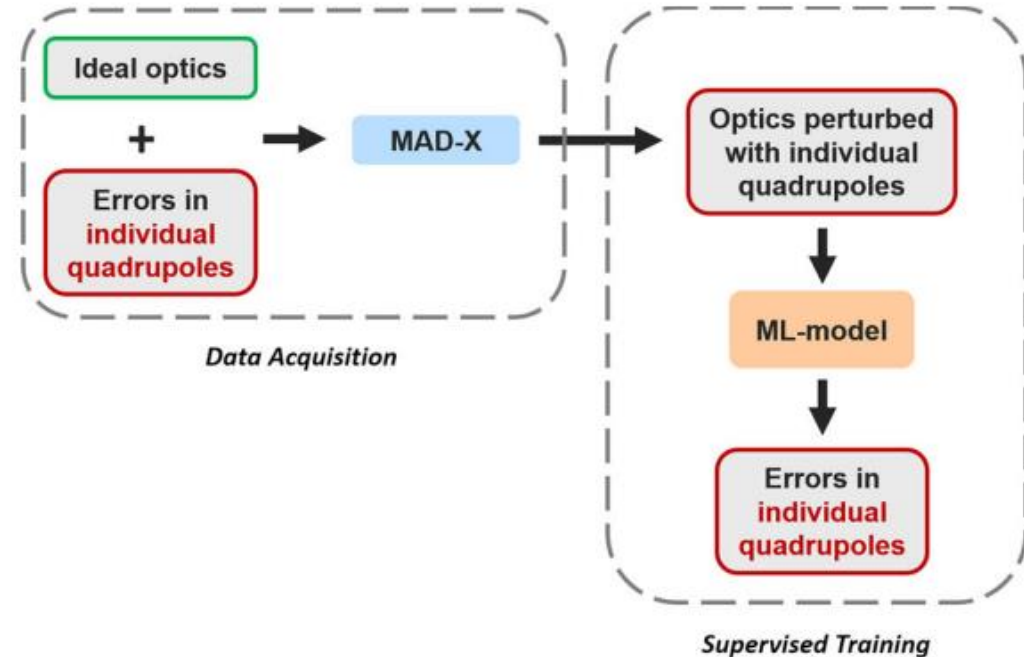

Fig 1. Data pipeline [1]
- [1] Fig 1. Data pipeline. **"Supervised learning-based reconstruction of magnet errors in circular accelerators"** by **E. Fol**, 2021, <https://doi.org/10.1140/epjp/s13360-021-01348-5>